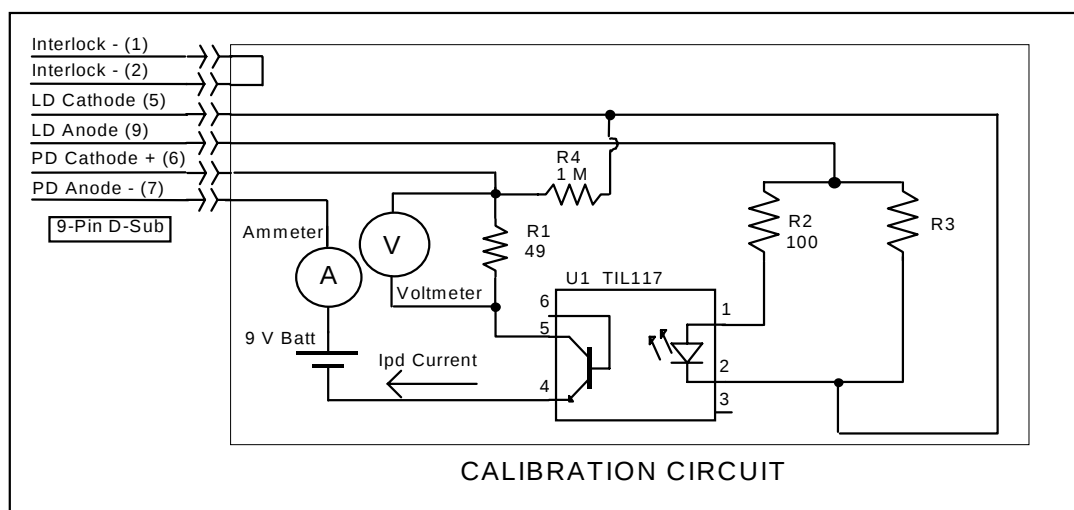

Figure 3.1 I_{PD} Calibration Circuit
- 1 Select the LCM-39427/437 to be calibrated by pressing the appropriate (ADJUST) switch until the LAS indicator is orange. With the LASER output off, connect a calibrated ammeter to the PD Anode output of the LCM-39427/437, and connect the circuit of Figure 3.1 to the LASER and PD outputs.
If a calibrated ammeter (with 0.1 μ A resolution) is not available, place a calibrated DMM (with 0.1 mV resolution) to measure the voltage across the resistor, R1, as shown in Figure 3.1. Calculate the current in the following steps by using Ohm's Law:
- 1 With the LASER output off, connect a calibrated ammeter to the PD Anode output of the LCM-39427/437, and connect the circuit of Figure 3.1 to the LASER and PD outputs.